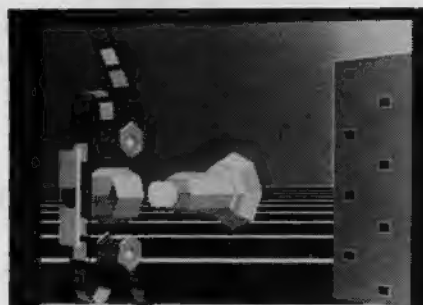

Figure 11
1) time exposures—The same film recorder that's used for vector graphics is capable of operating in a raster mode, too. As in the vector mode, each frame in a sequence is stored on film via a time exposure. Figure 11 is from a commercial produced by Digital Effects using a film recorder.